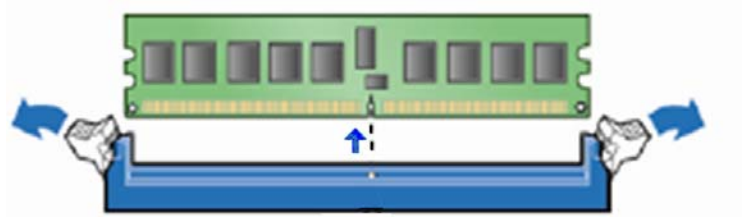

**Figure 14 - Installing a DIMM**
- 2) Make sure the clips at either end of the DIMM socket(s) are pushed outward to the open position (see Figure 14)-A.
- 4) Position the DIMM above the socket. Align the small notch at the bottom edge of the DIMM with the keys in the socket (see inset in Figure 14)-B.